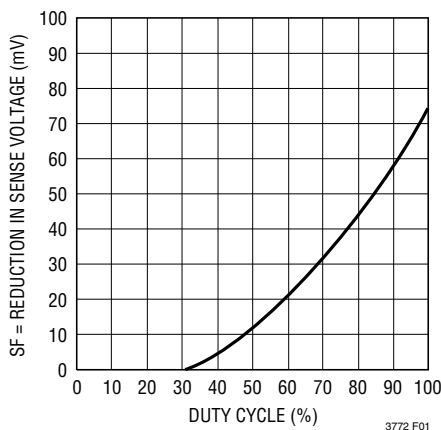

Figure 1. Reduction in Sense Voltage Due to Slope Compensation vs Duty Cycle
**Note 6:** Peak current sense voltage is reduced dependent on duty cycle as given in Figure 1.
However, once the controller's duty cycle exceeds 20%, slope compensation begins and effectively reduces the peak sense voltage by a scale factor given by the curve in Figure 1.
where SF is a factor whose value is obtained from the curve in Figure 1.